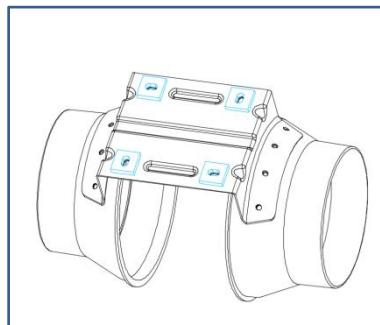

Fig.6.
- 2、Paste the cushion onto the flange bracket to ensure that the hole of the cushion is aligned with the hole of the flange bracket. See the (Fig.6.)